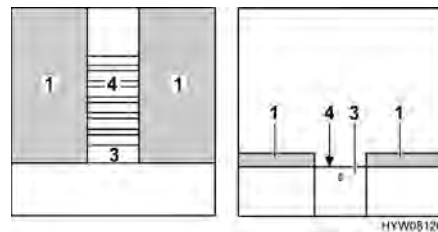

Fig. 75 During conversion
- Pull out slatted frame (Fig. 75,4) completely. To do this, pull on the extension (Fig. 75,3).